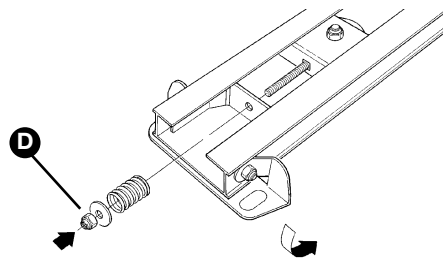

Figure 31
**5** Insert the spring, washer and M8 nut **[D]**, in the screw of the belt tensioner device, as shown in figure 31.